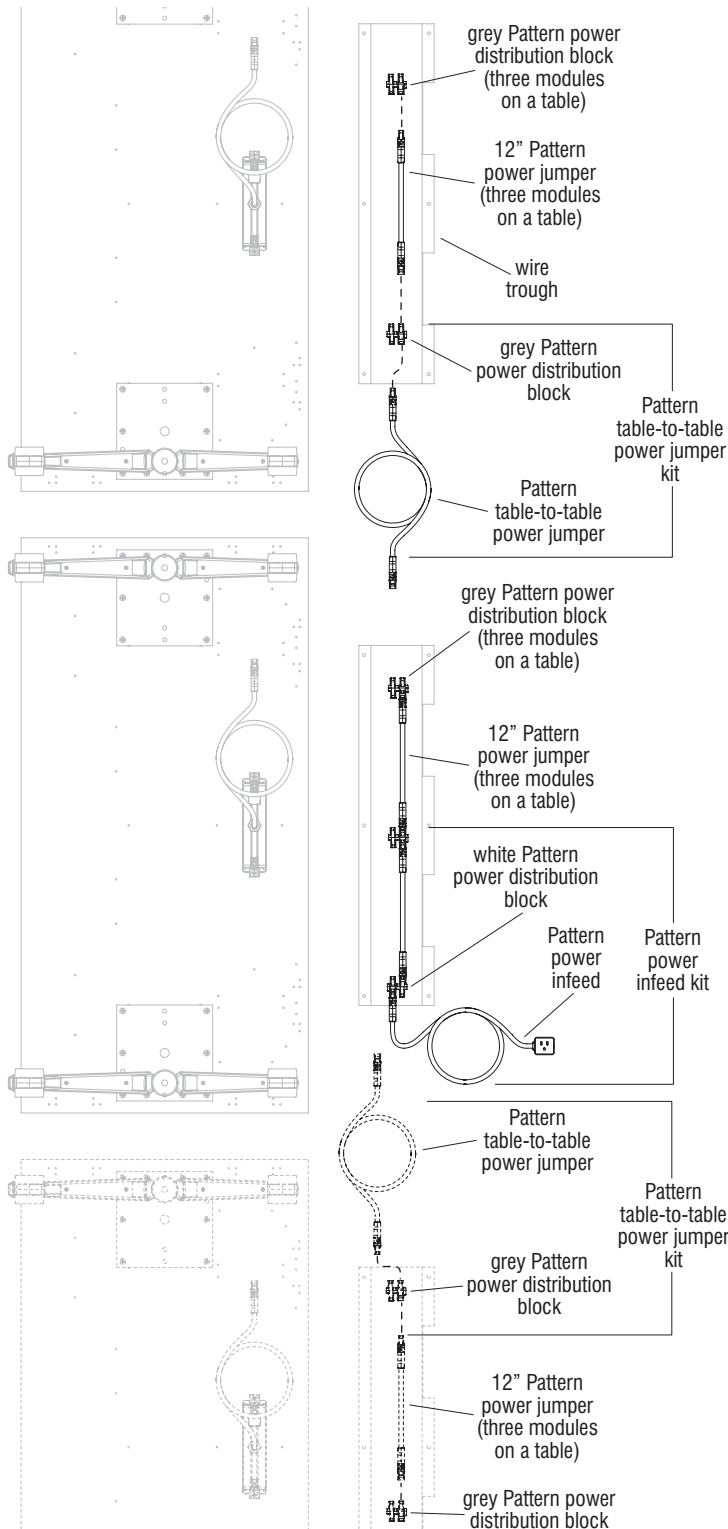

Figure 2 - (bottom view)
1. Take a Pattern table-to-table power jumper in hand and plug the jumper's male connector end into a grey Pattern power distribution block as shown in Detail B on page 14 and Figure 2 this page. Orient the table-to-table power jumper's female connector end out of the trough and toward the previous table, in the direction of the table with the Pattern table-to-table power jumper kit (Figure 2 & page 14, Detail B).
2. Step 1 above assembles the Pattern table-to-table power jumper kit (Figure 2). If the table being assembled will have three power modules, an additional 12" power jumper and grey power distribution block must be added after the Pattern table-to-table kit (Figure 2 & page 14, Detail B).
4. If the Pattern power infeed is located in-between two tables, connect the closest Pattern table-to-table power jumper, not connected to the run of tables, to the open available socket on the white Pattern power distribution block (Figure 2 & page 14, Detail B).